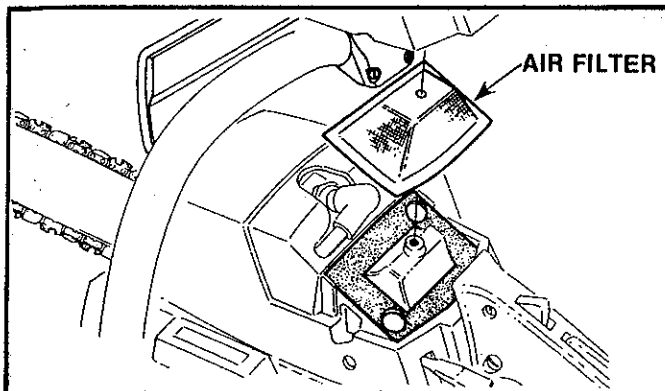

Figure 52
- Remove the carburetor cover. Figure 52.